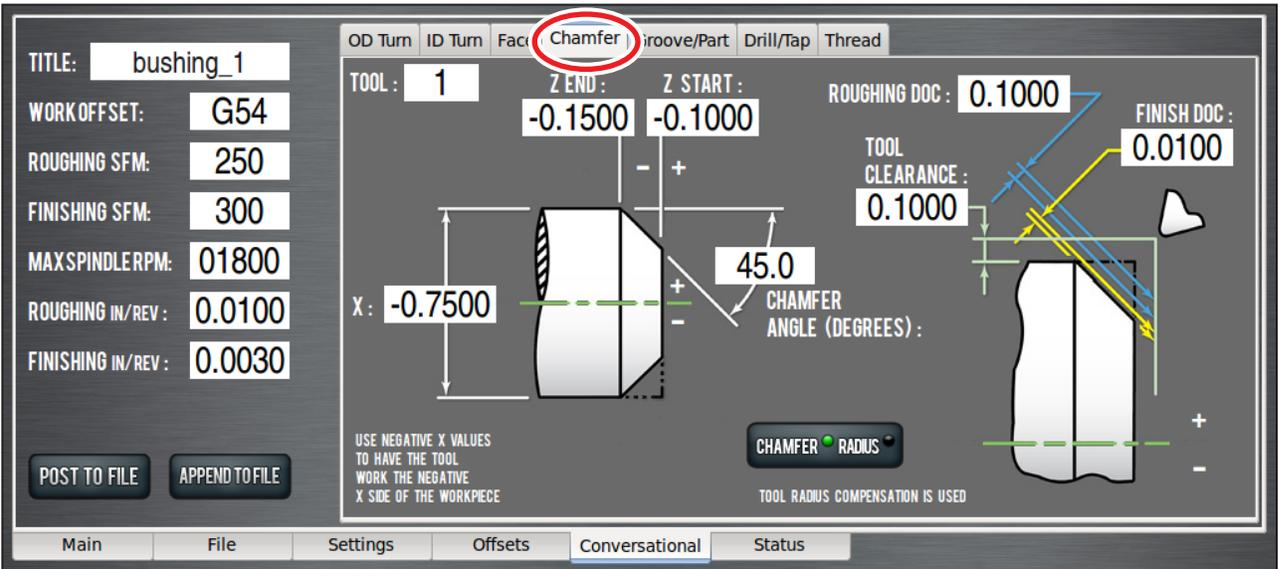

Figure 4.24
1. Put a small chamfer on the part using the *Chamfer* tab of the *Conversational* screen. Enter the values as shown in **Figure 4.24**.